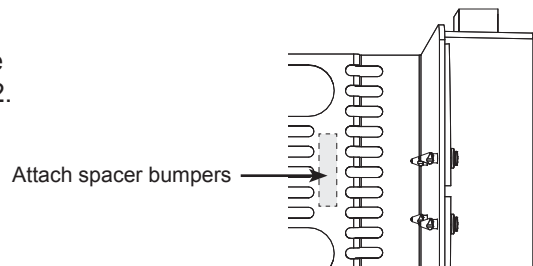

Fig. 2, Top view of bracket showing mounting area for XM2 spacer bumpers
2. If the bracket is being installed in an XM2 system, install the included spacer bumpers within the shaded area in Figure 2.